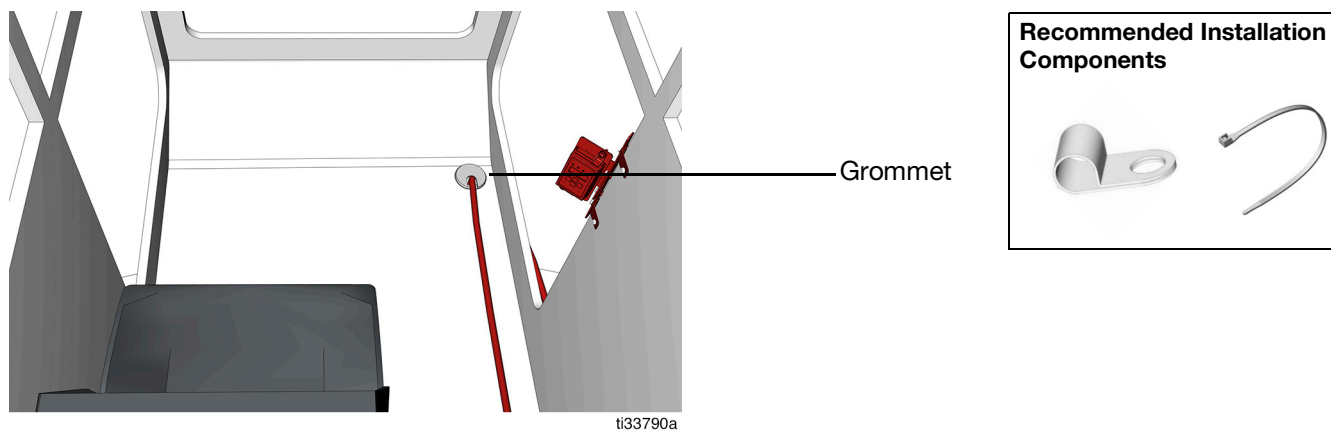

FIG. 14
2. Route the power cable into the cab through the rubber grommet located under the floor mat (FIG. 14).